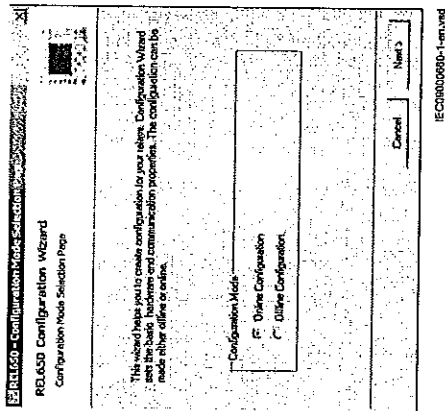

Figure 18: *PCM600: Configuration mode selection wizard*
3. Select the *Online Configuration mode*, see Figure 18.